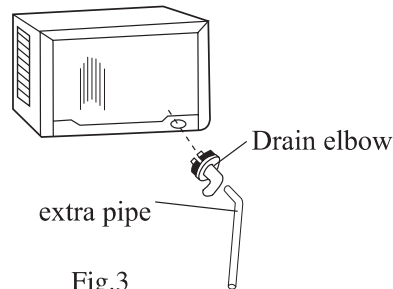

Fig.3
- Plug the drain elbow of the enclosed accessories (with seal ring) into the drain hole on the vertical wall at the back of the bottom plate (see Fig. 3)